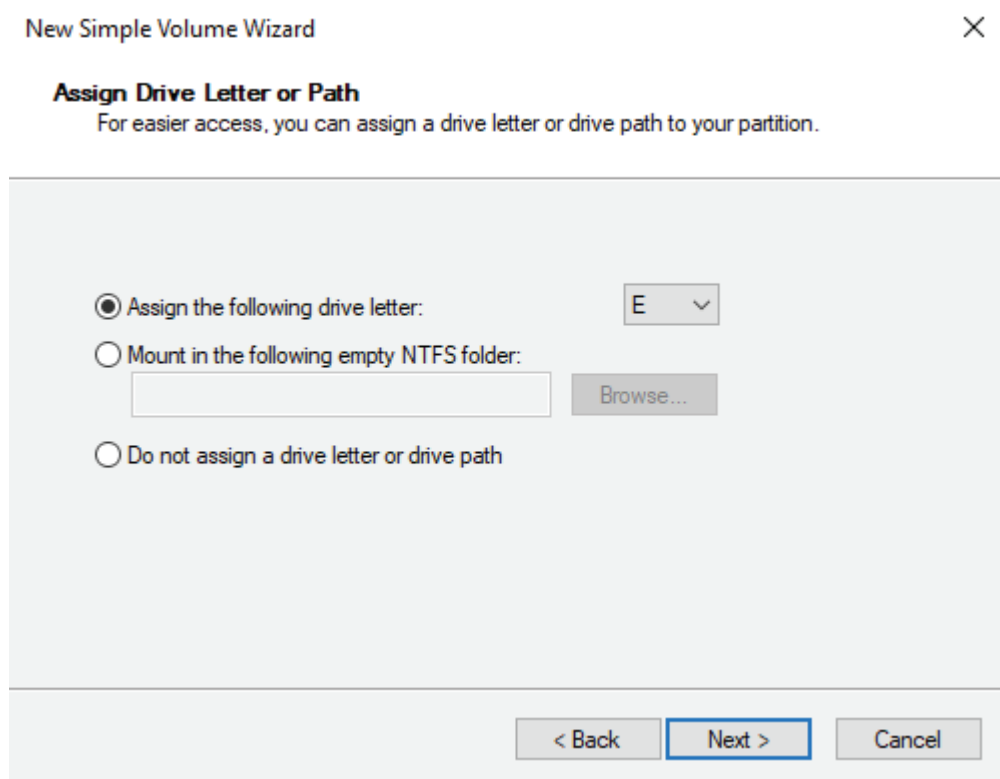

Figure 9
9. After you have selected the capacity of the volume you will go on to the next page. There you will select a letter for the identity of the drive (figure 9). You can select the lett in the dropdown menu (figure 9.1).